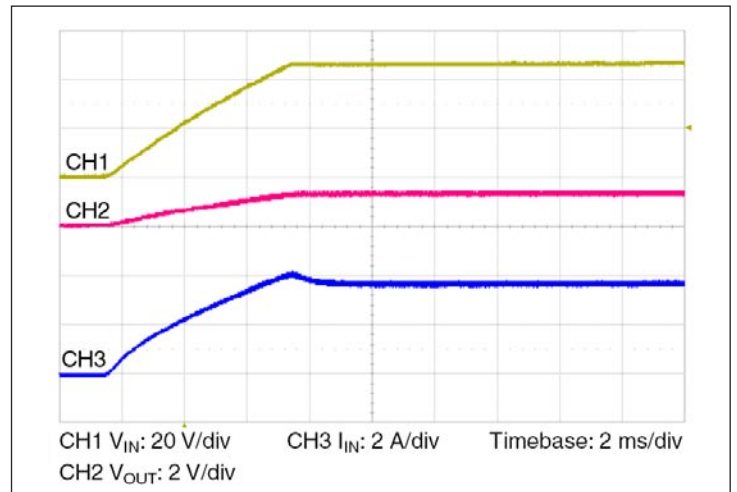

Figure 10 – Start up from application of VIN; VC pre-applied
- Normal operation (VC applied prior to VIN): In this case the controller is active prior to ramping the input. When the input voltage is applied, the VTM module output voltage will track the input (See Figure 10). The inrush current is determined by the input voltage rate of rise and output capacitance. If the VC voltage is removed prior to the input reaching 26 V, the VTM may shut down.